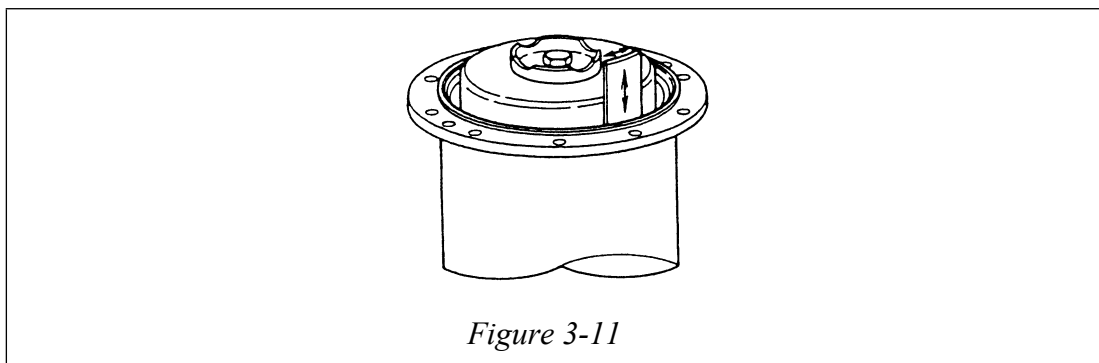

Figure 3-11
- (3) Fold the cup-shaped diaphragm into the case using a soft plate and pay attention not to scratch the diaphragm. (See Figure 3-11.)